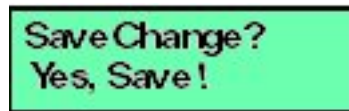

Figure 3.19. LCD Panel (Save Change)
7. Use the arrow keys as described in step 2 to enter the IP address for the DNS server, then press **ENTER**. The following message displays (Figure 3-19):